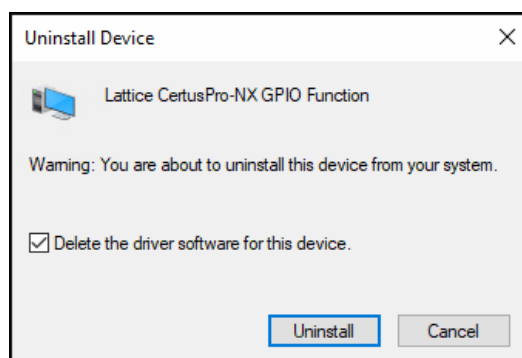

Figure 5.59. Select the Check Box and Click on Uninstall Button
3. Check the option **Delete the driver software for this device** and click on **Uninstall** as shown in Figure 5.59.